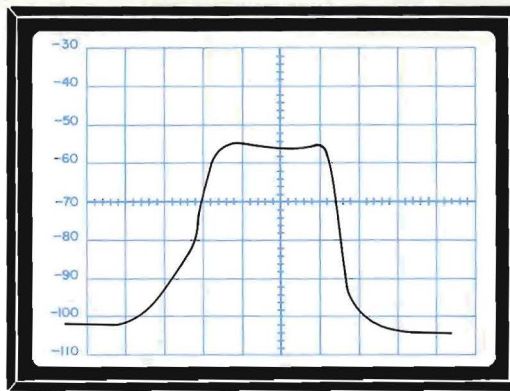

Figure 4-7 Typical Frequency Response Curve
4. Adjust FM/AM-1500 DEV/VERT Control (39) as required for proper display of UUT characteristics on FM/AM-1500 oscilloscope. (See Figure 4-7.)